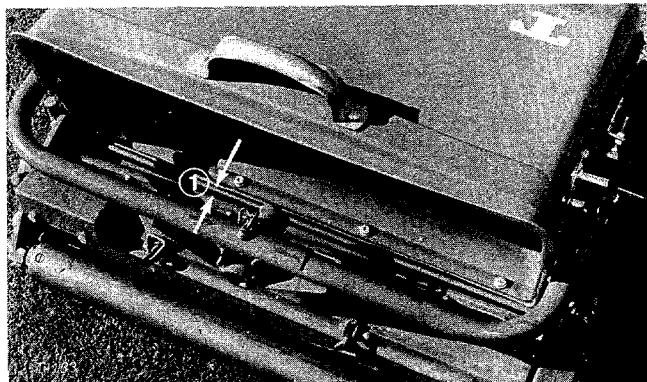

Figure 8
2. Measure distance between lip of basket and edge of cutting unit shield. There should be a clearance between the components of no more than $1/4$ inch (6 mm) (Fig. 8). If the dimension is incorrect, adjust basket.